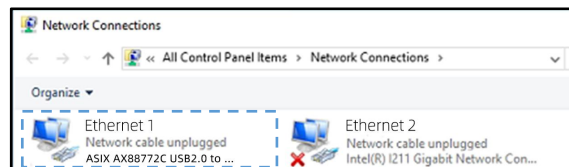

Figure 5-9 Network Connection
Step 3: Select the "...AX88772C..." network in the "Network Connection" window (Figure 5-9);